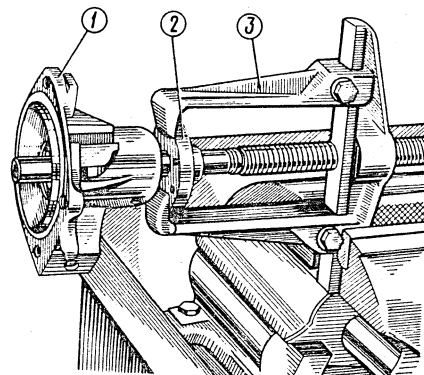

Fig.2-64. Removing the Pulley Hub:
- remove hub 2 (Fig. 2-64) of the fan pulley from the shaft with remover tool A.40005/1/5;